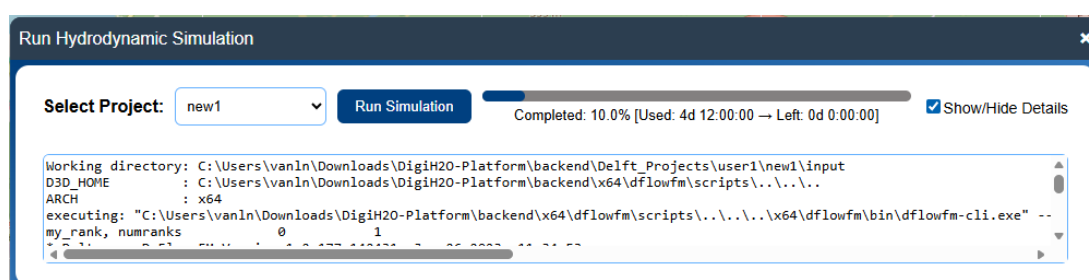

Figure 3.8. Run an HYD simulation
- After selecting a scenario, hit the button “**Run Simulation**” to run an HYD simulation. You can see the process of simulation (for example, percentage completed, time used and time left of this simulation) (Figure 3.8).